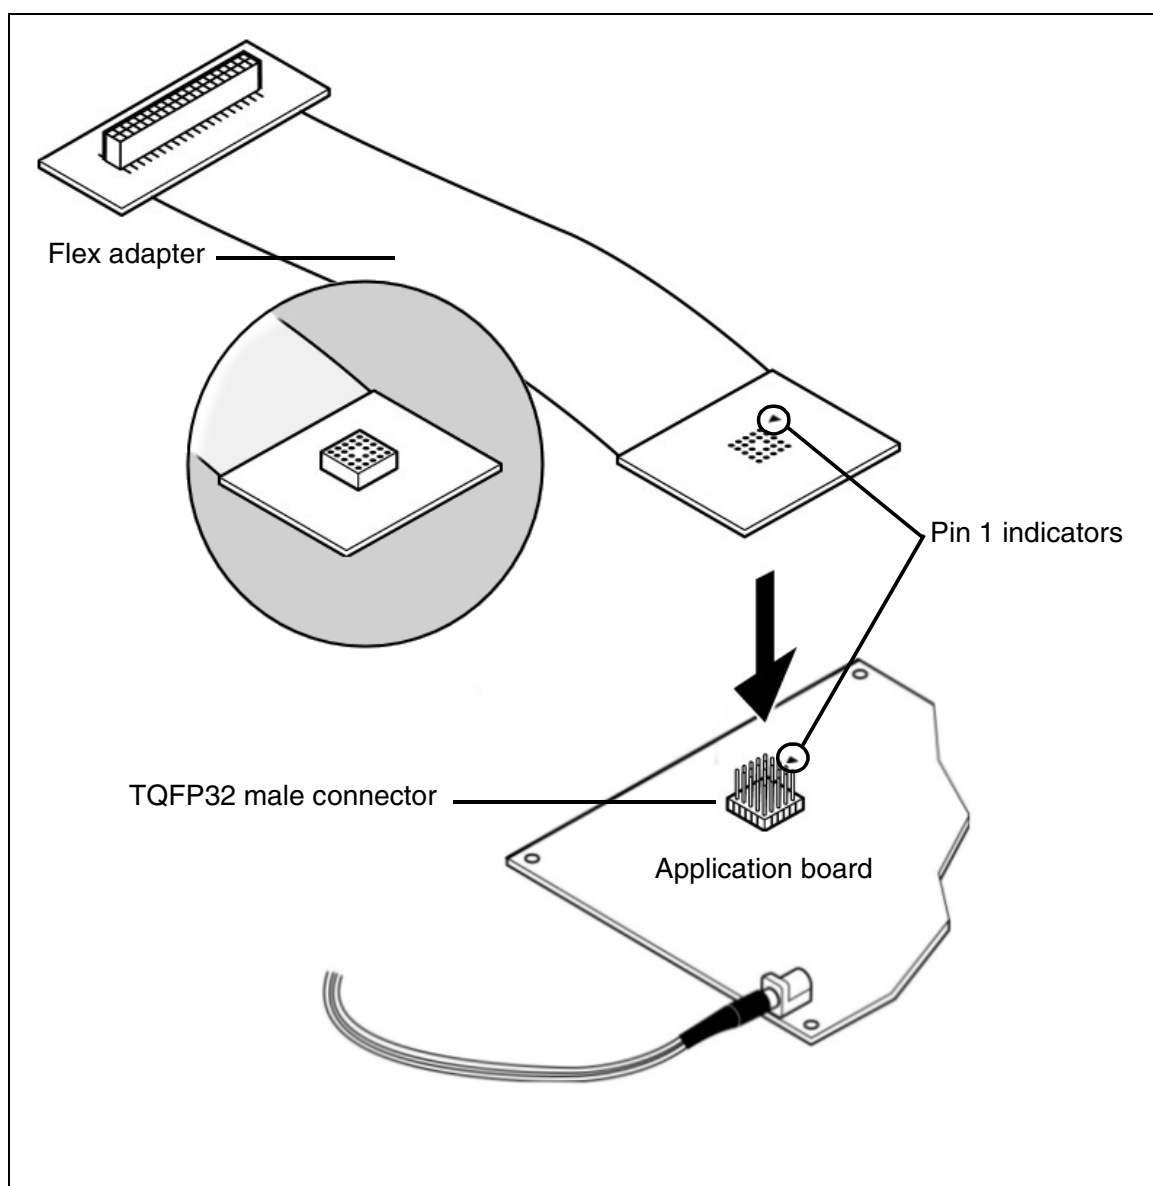

Figure 8: TQFP32 (7 x 7) connection scheme
- 2 Align the pin 1 indicators for the TQFP32 end of the DB522 flex adapter and the TQFP32 male connector on the application board. Then insert the pin of the TQFP32 male connector into the female connector of the DB522 flex adapter as shown in Figure 8.